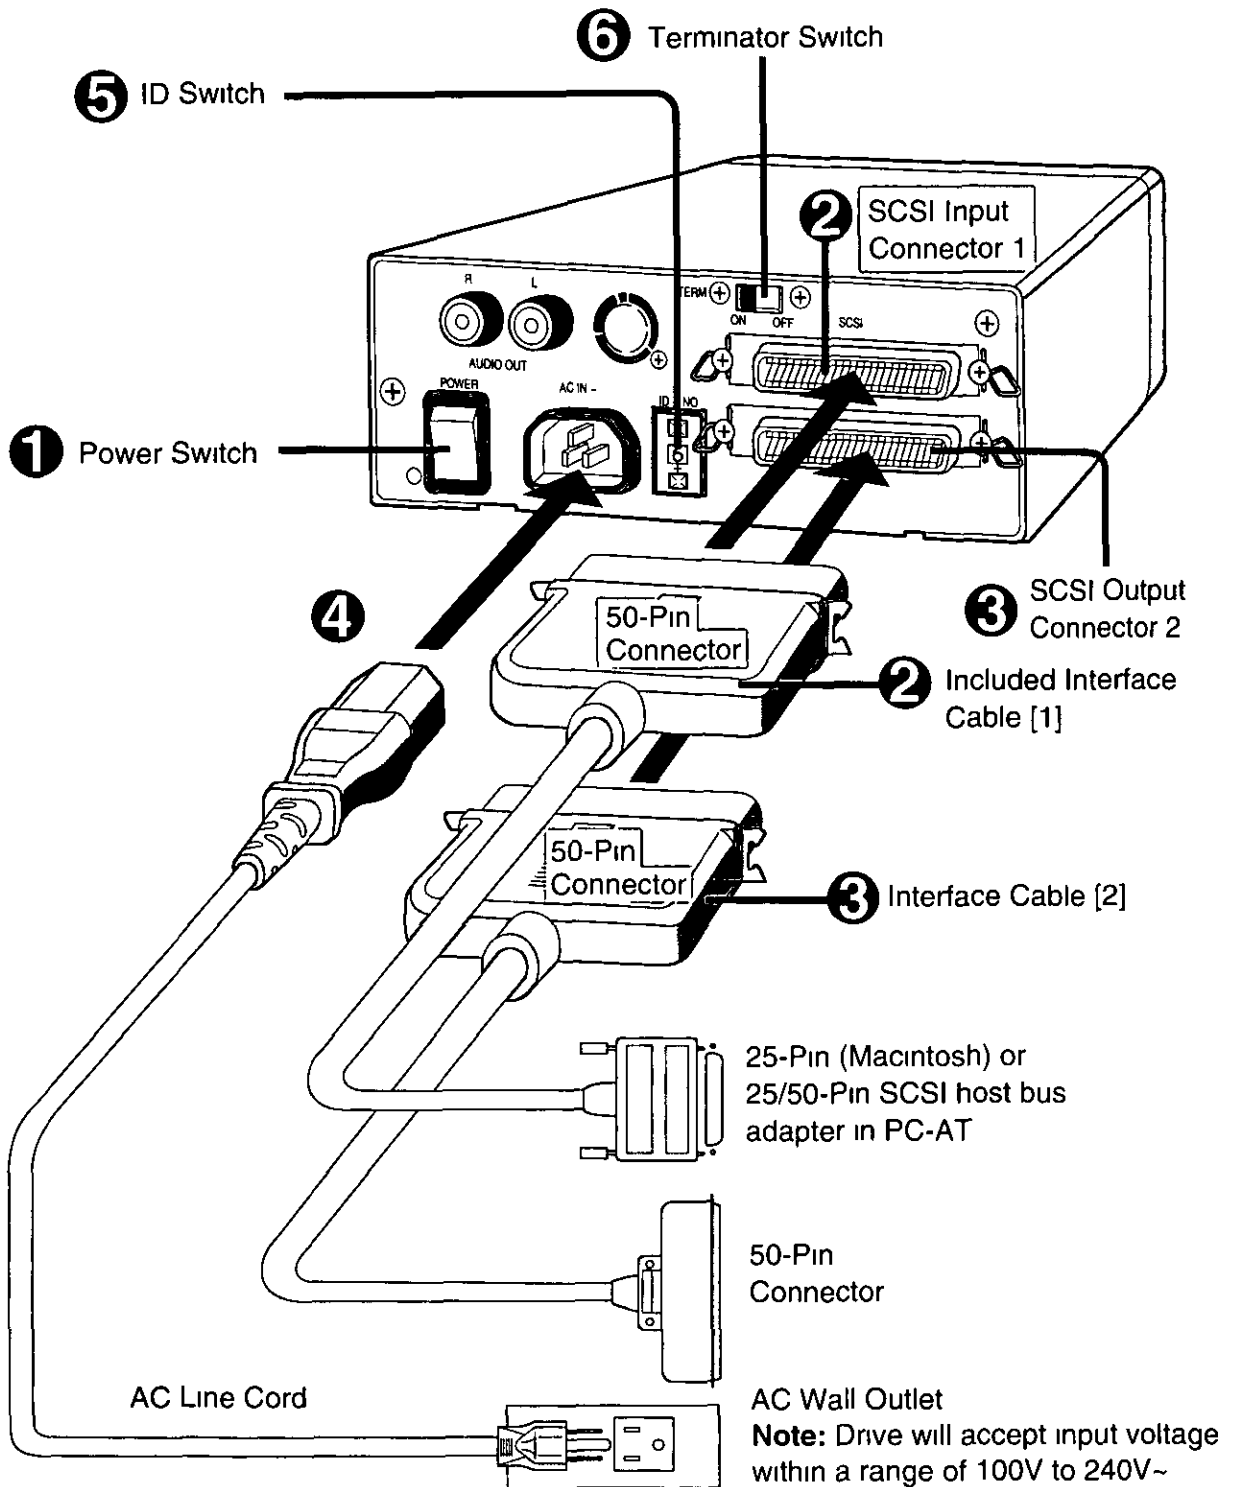

Figure 3
- 2** **Install included interface cable [1] as shown in Figure 3.**
and the other end to the wall outlet as shown in Figure 3